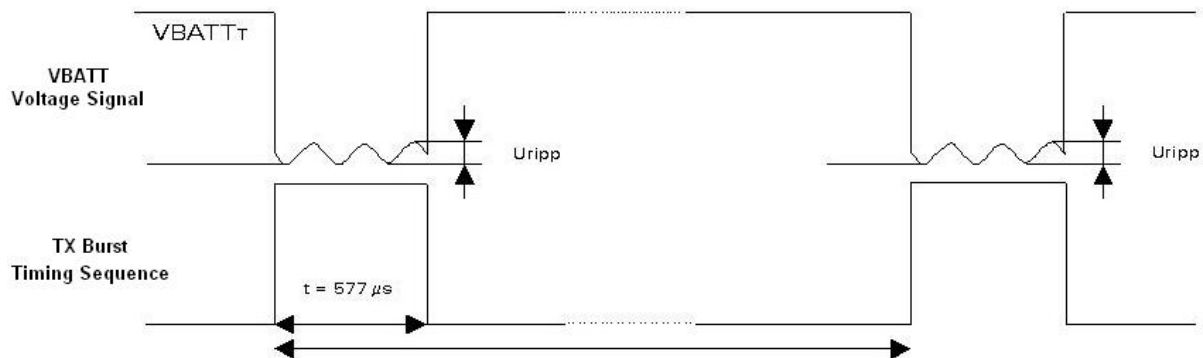

Figure 2. Power Supply During Burst Emission
- GSM/GPRS class 2 terminals emit 577 $\mu$ s radio bursts every 4.615ms (see Figure 2 Power Supply During Burst Emission)